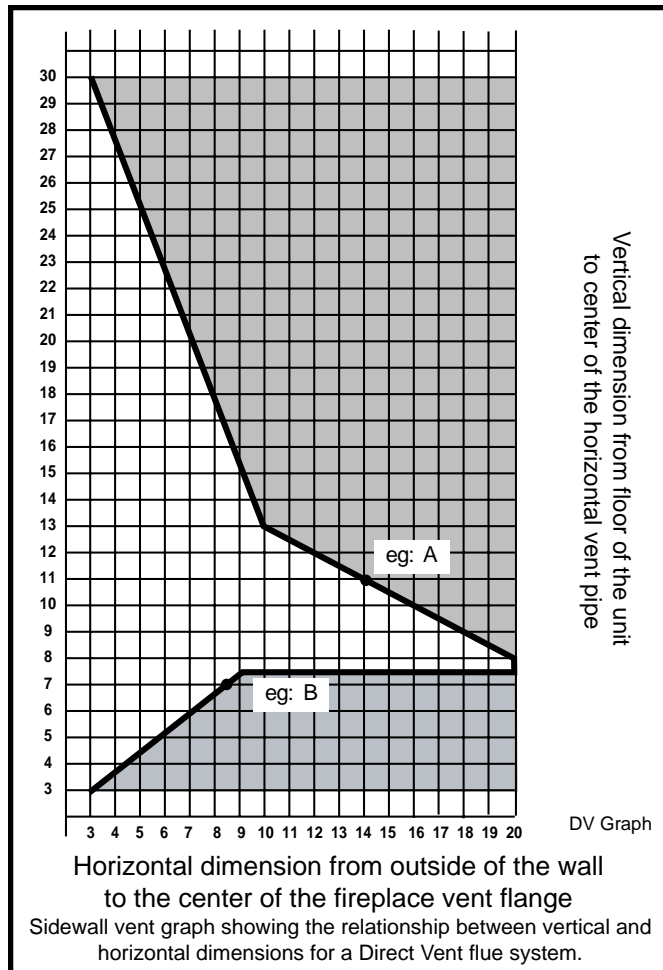

Fig. 16 Sidewall vent graph.
- The vent graph (Fig. 16), showing relationship between vertical and horizontal side wall venting, will help determine allowable dimensions.
Example: According to the vent graph (Fig. 16), the maximum horizontal vent length in a system with a 7½" (191mm) vertical rise is 20 ft. (6.1m), but if a 90° is required in the horizontal vent, it must be reduced to 17 ft. (5.2m).